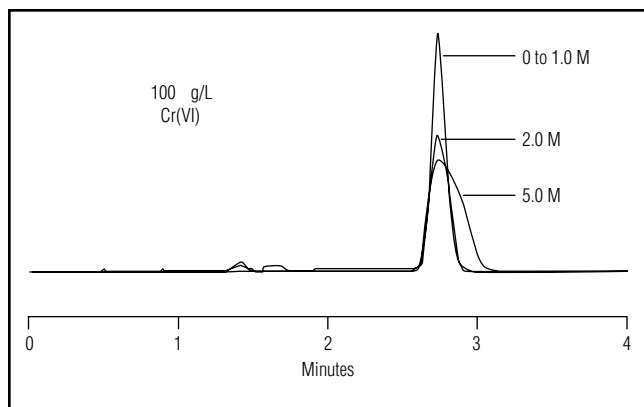

Figure 6 Cr(VI) in acetate buffer.
The method can handle samples of up to 5% sodium sulfate, 2% sodium chloride, 1 M acetate buffer, or 0.5 M carbonate buffer without adverse effects on the analysis. Figures 5A, 5B, and 5C illustrate the responses of 100- $\mu\text{g/L}$ Cr(VI) spikes in various concentrations of these sample matrices. Increasing the matrix ionic strength, as illustrated in Figure 6 for the acetate buffer, eventually causes column overload and compromises the chromatography and detection.